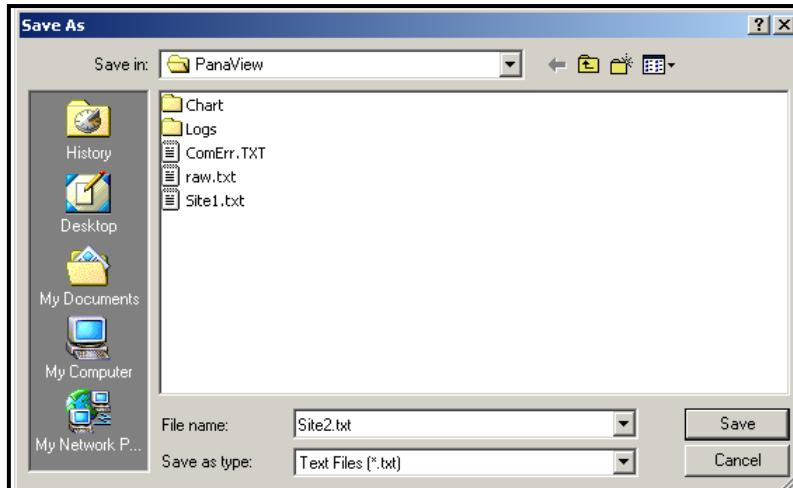

Figure 30: Save As Window
To save the raw signal, click *Save*. A window opens similar to Figure 30. Enter the desired name, and click *Save* to save the signal as a text file.
2. Click *Save Site to PC*. A window opens similar to Figure 30 on page 90.